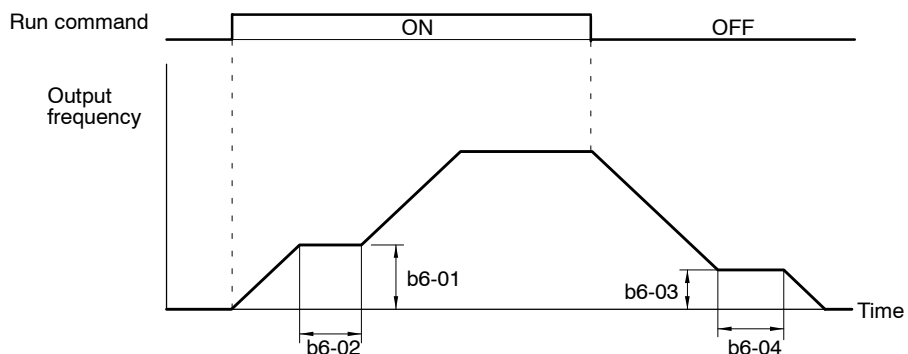

Fig 7.23 Timing Chart for Dwell Functions
- The relation between these constants is shown in *Figure 7.23*.